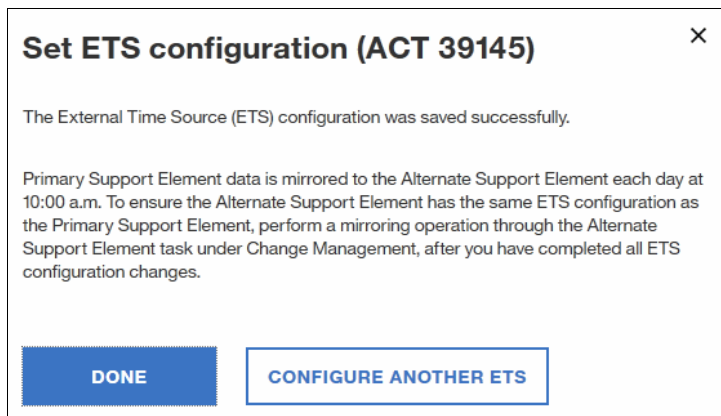

Figure 8-51 ETS configured successfully (ACT39145)
- The Set ETS configuration (ACT 39145) window opens. Click **DONE** to finish. (Figure 8-51).